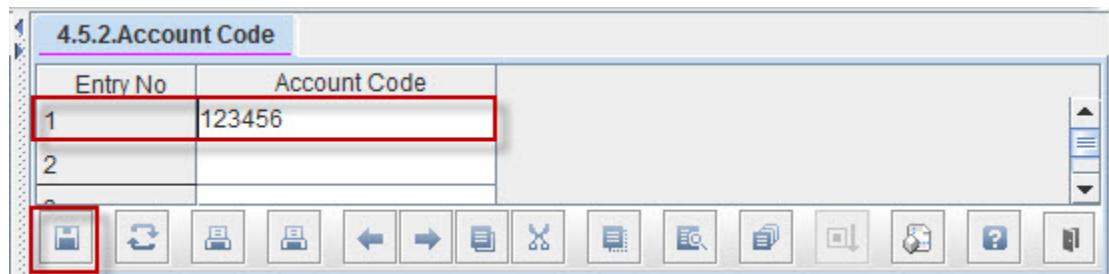

Figure 22 Account Code (4.5.2)
11. Under **Extension** the **“Entry No”** can be entered as shown in **Figure 22** here or for “Key No” 3 Extension can be left blank. If this is left blank when the user at extension 3202 presses key number 3, the user will be prompted for a BIN number NOT the Account Code number that is entered in that bin. For this example the user must enter 001